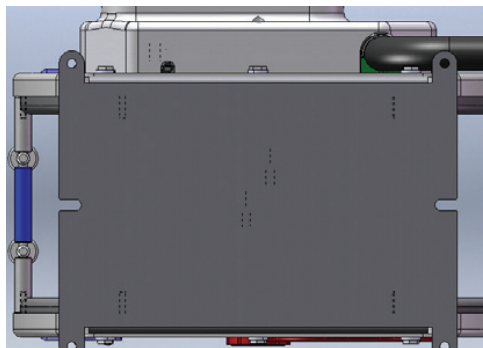

Fig. 1
STEP 1**Mount Cablemaster (fig. 1)**